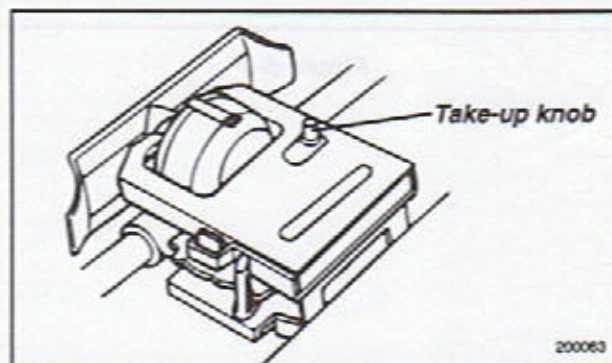

Figure 6-10
4. Turn the knob in the direction of the arrow to take up slack in the ribbon (see Figure 6-10).